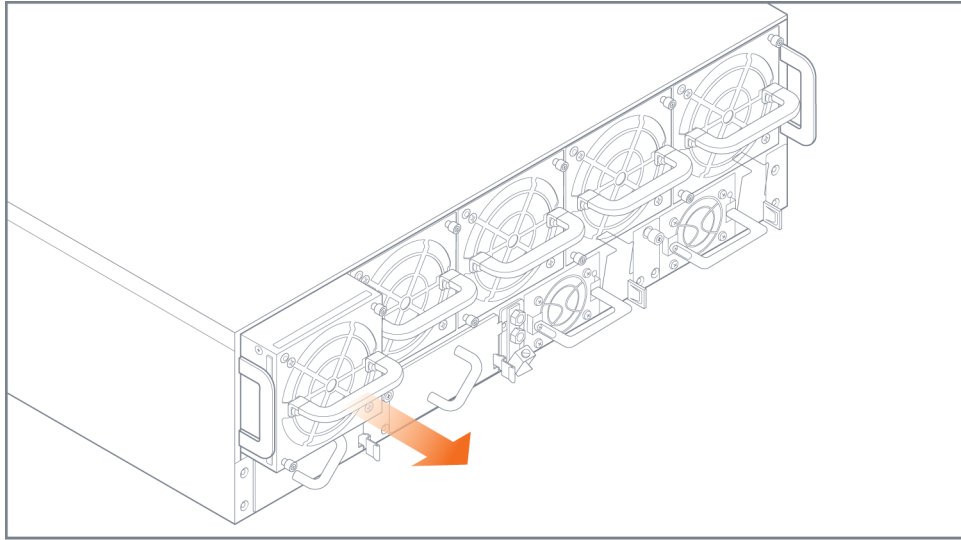

Figure 4-8: Fan Module Removal
3. Pull the failed fan module out of the slot and set it aside. Refer to Figure 4-8 on page 80.